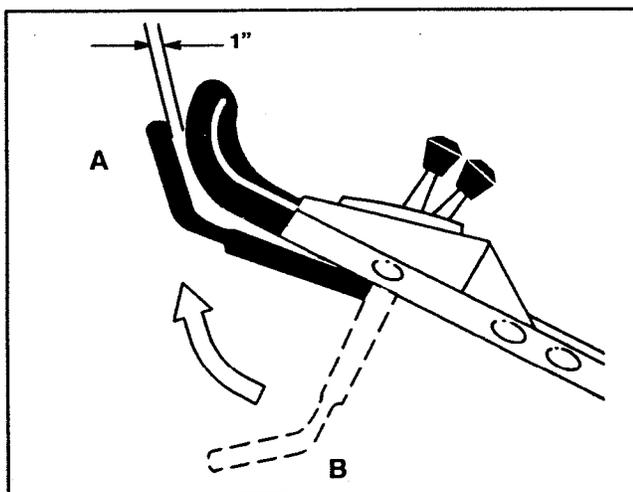

Figure 13
8. Lift control bar to the normal "blade engaged" position (about one inch below the handle) (Position A, Fig. 13). The "fan" noise indicates that the mower blade is turning.
9. Release the control bar (Position B, Fig. 13). A "bang" should be heard. The blade should stop running in three seconds.